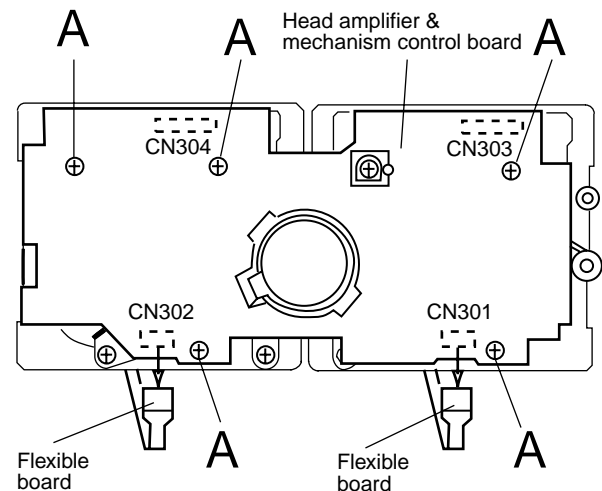

Fig.4
■ Removing the head amp. and mechanism control P.C. board (See Fig. 4)